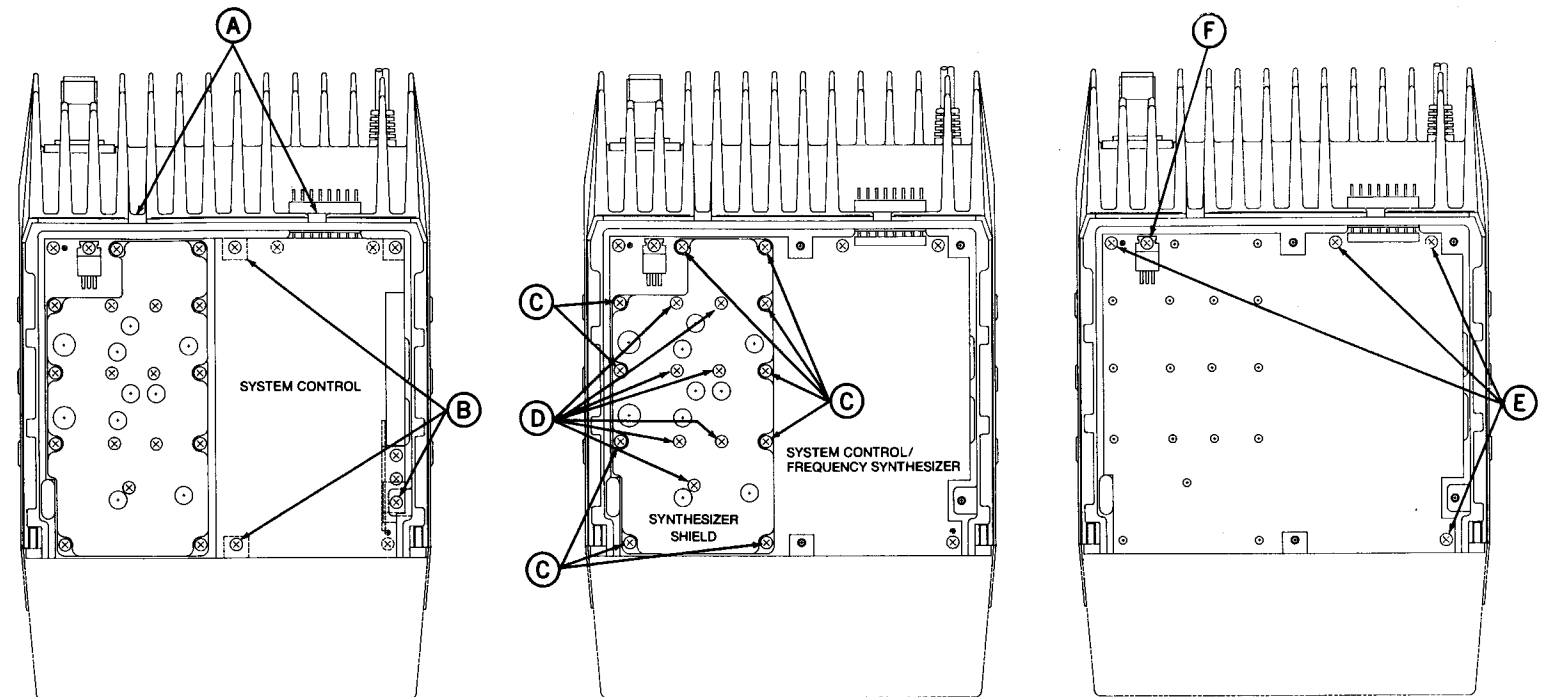

Figure 3 - Disassemble Procedure (Top View)
1. Remove the two (2) screws (A) securing the top cover (refer to Figure 3).
2. Remove the four (4) screws (B) securing the System Control 2 Board to the frame and carefully lift up and remove the board.
1. Remove the screws (G) securing the top cover and the bottom cover (refer to Figures 3 & 4).
2. Disconnect the interconnecting cables and then remove the seven (7) (H) securing the shield to the receiver board. Carefully lift up and remove the board.
1. Remove the screws (A) and (G) securing the top and bottom covers (refer to Figures 3 & 4).
2. Disconnect the interconnecting cable. Remove the seven (7) screws (I) securing the exciter/PA shield and the antenna shield.
3. Remove the two (2) screws (J) connecting the power supply cable to the exciter/PA board and turn the cable stopper mounted on the rear of the frame assembly 90 degrees. Lift up the cable stopper up and remove the power supply cable.
4. Remove the two (2) screws (K) securing power module HC1. Remove the screws (L) securing power transistors TR1 and TR2.
5. Remove the five (5) screws (M) securing the transmitter board. Carefully lift up and remove the board.